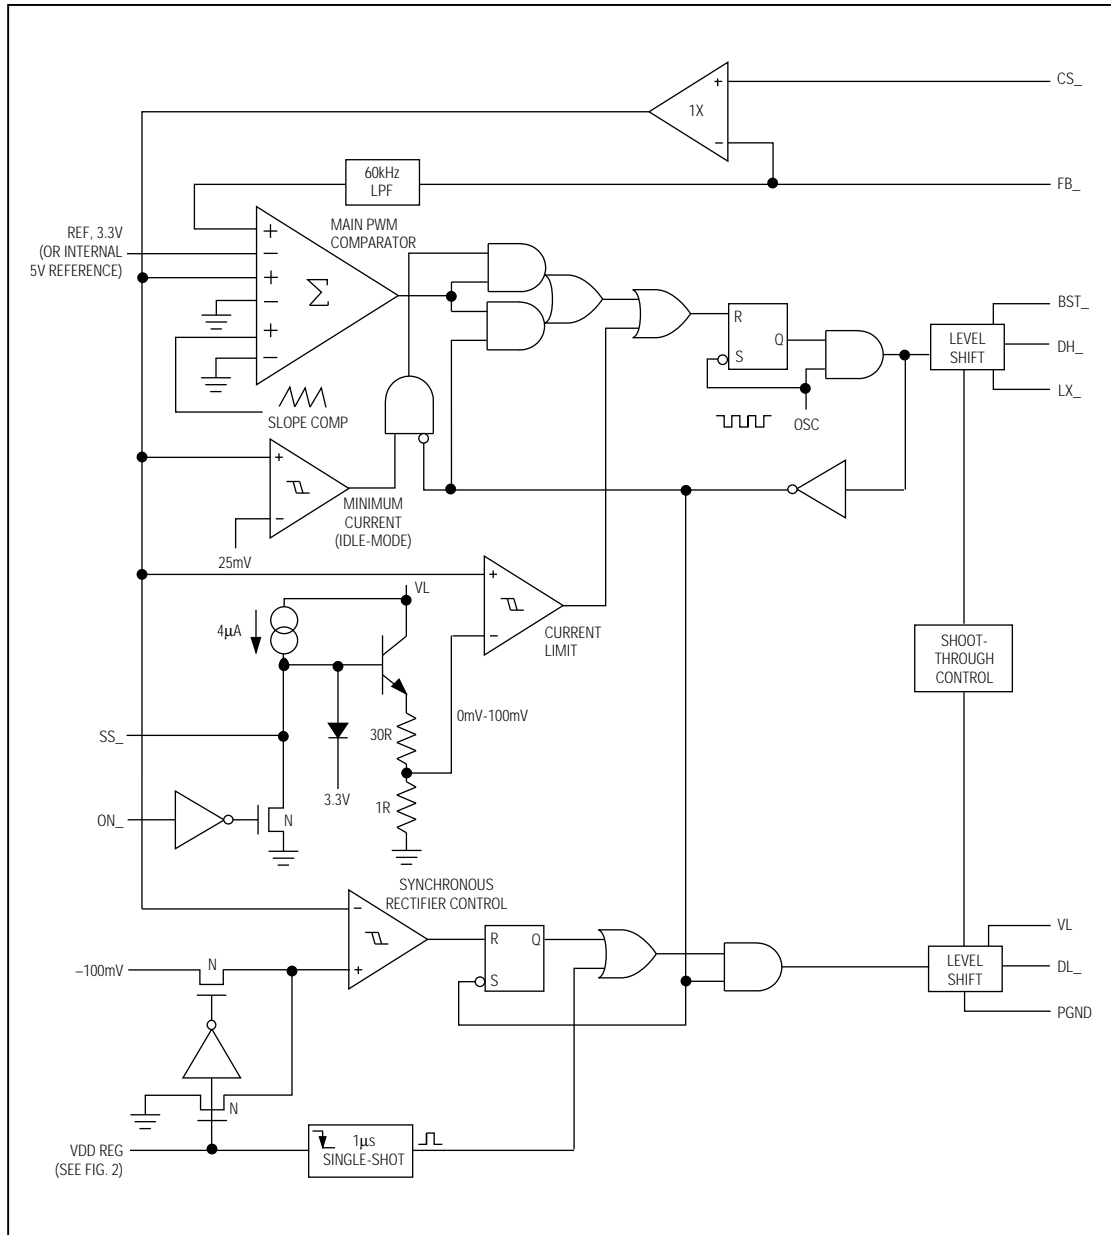

Figure 3. PWM Controller Block Diagram
The two current-mode PWM controllers are identical except for different preset output voltages and the addition of a flyback winding control loop to the +5V side (see Figure 3, +3.3V/+5V PWM Controller Block Diagram). Each PWM is independent except for being synchronized to a master oscillator and sharing a common reference (REF) and logic supply (VL). Each PWM can be turned on and off separately via ON3 and ON5. The PWMs are a direct-summing type, lacking a traditional integrator-type error amplifier and the phase shift associated with it. They therefore do not require any external feedback compensation components if the filter capacitor ESR guidelines given in the *Design Procedure* are followed.